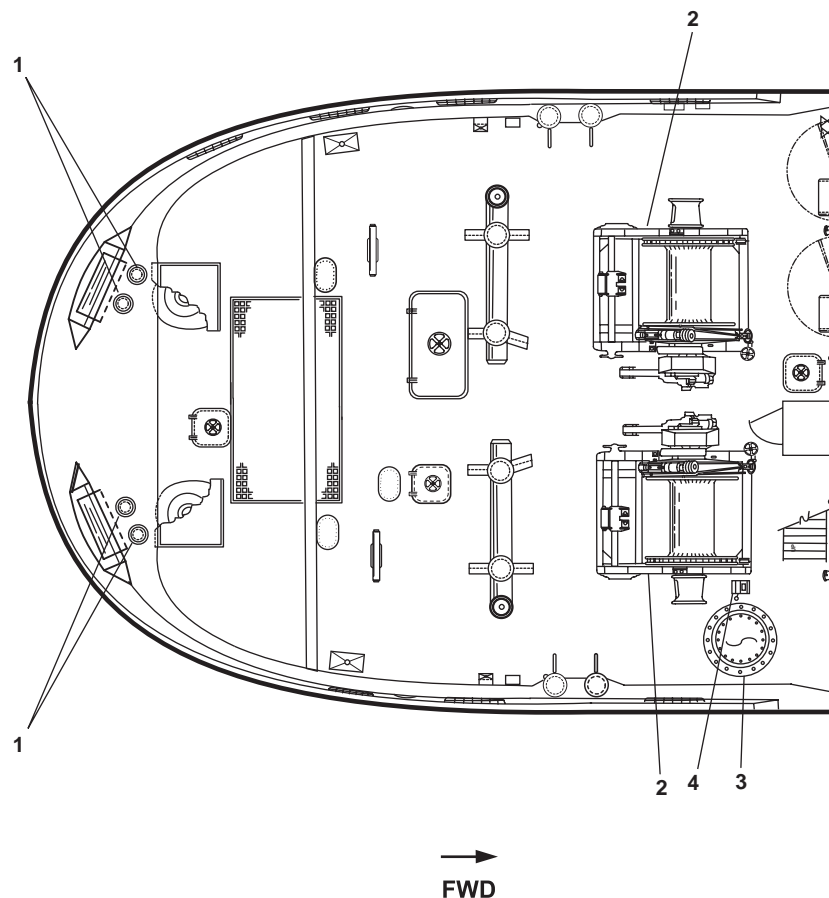

Figure 1. Deck Machinery and Hydraulic Systems Components, Main Deck
1. Retractable Tow Pins (figure 1, item 1). Four retractable tow pins are used to guide the tow wire rope during towing. Primary control of the tow pins is through switches on the towing machine operator control panel located on the 01 level deck over looking the fantail. The tow pins are located on the fantail, port, and starboard.
2. Towing Machine (figure 1, item 2). Two towing machines are equipped with wire rope used for towing. The primary control is from the 01 level deck overlooking the fantail.
3. Capstan (figure 1, item 3). A single capstan is mounted on the fantail. The capstan is used for handling lines used in towing and mooring.
4. Capstan Controls (figure 1, item 4). A single control lever controls the direction and speed of capstan rotation.